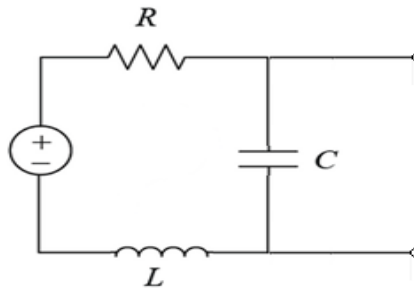

Figure 1[b]
- [b] An electrical system is shown in Figure 1[b].